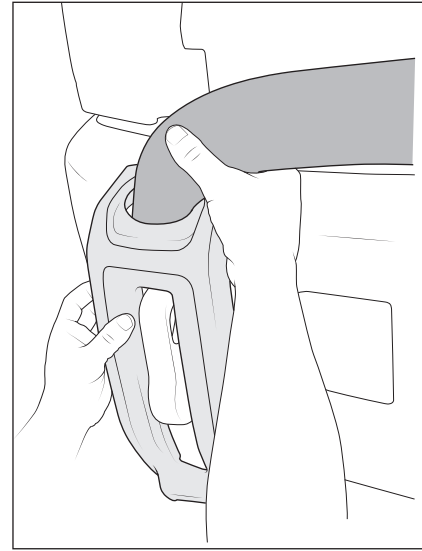

Figure 21
2. Slide the second bezel onto the end of the tube, then position together in place on the bumper (fig 21).